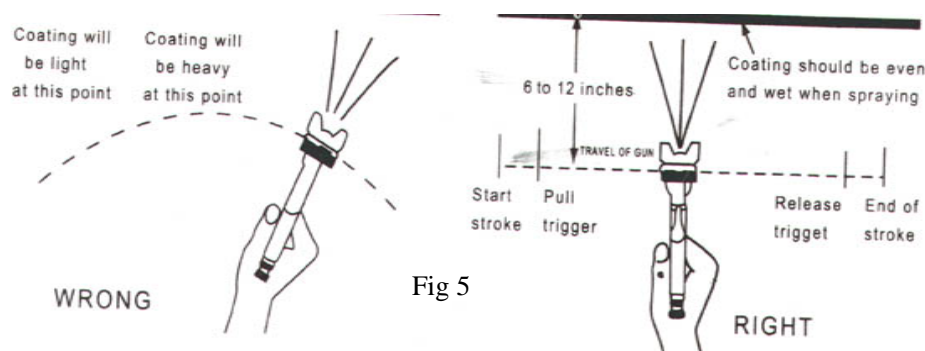

Fig 5
- When spraying, hold the gun perpendicular with spraying area then move it parallel for several times. The trigger should be locked before the stroke ended. Keep the appropriate distance of 6-10 inches between gun and surface area, according the atomization pressure and spraying conditions. See Fig 5.